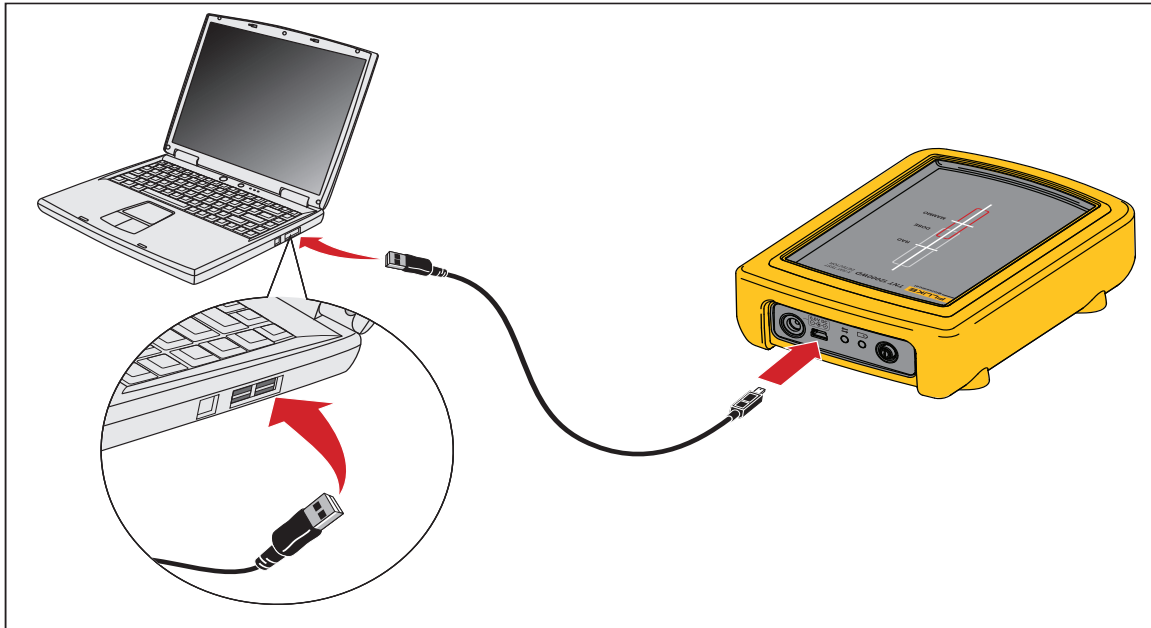

Figure 3-2. USB Connection between PC and Detector
3. Connect a Detector to the PC through the USB cable (Type-A to Mini-B) and turn on the Detector. See Figure 3-2. The Found New Hardware Wizard shows in the PC display.